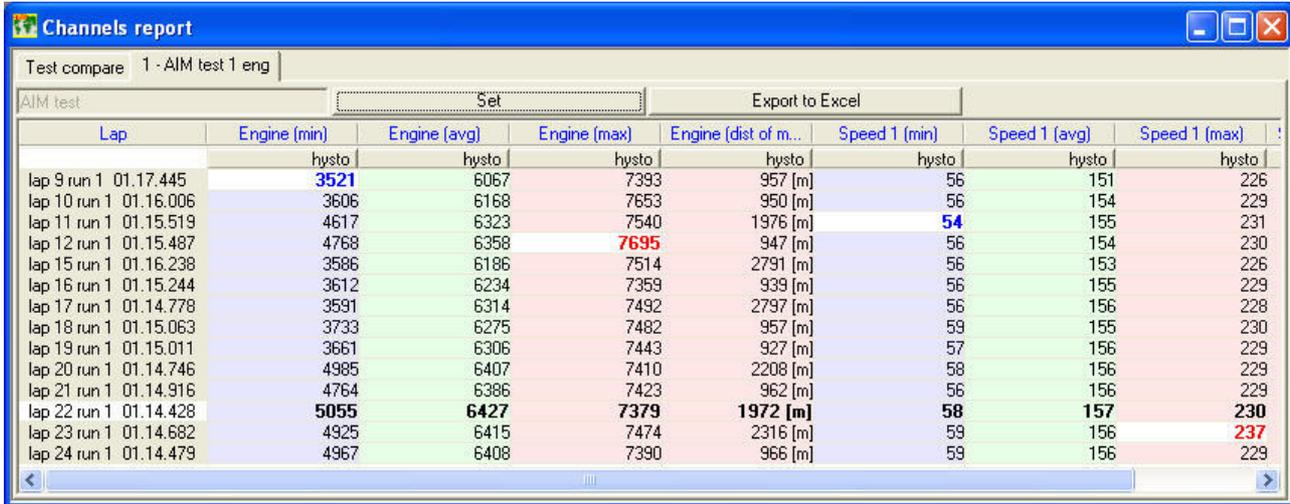

Fig. 6.7– *Channels report* window: graphical visualization layer
Now you may press the “Set” button (7) in order to switch the *Channels report* window from the “configuration” layer to the “graphical visualization” one, shown in Figure 6.7.
Inside this window it is shown the desired values and input channels corresponding to the active laps. As shown in Figure 6.7, it is reminded that the best lap (lap #22) is written in bold character and the overall best input channels' values are white highlighted.